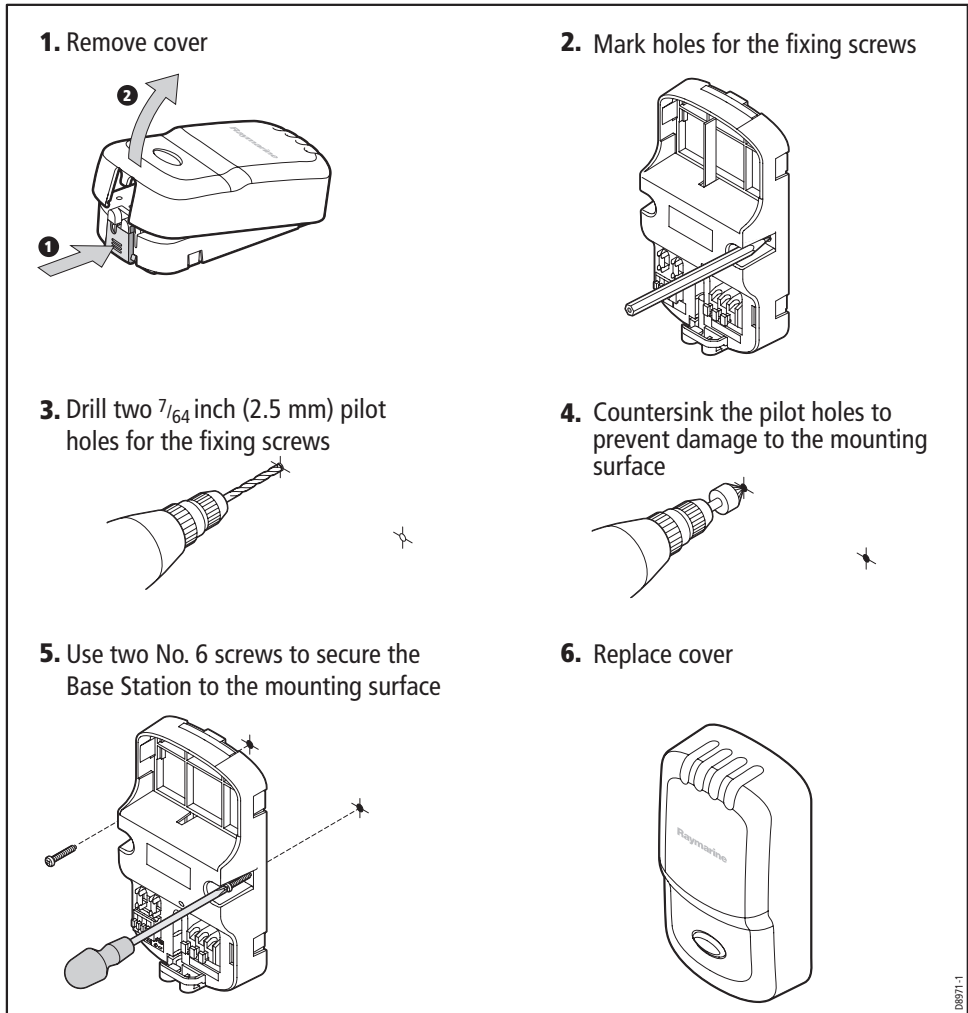
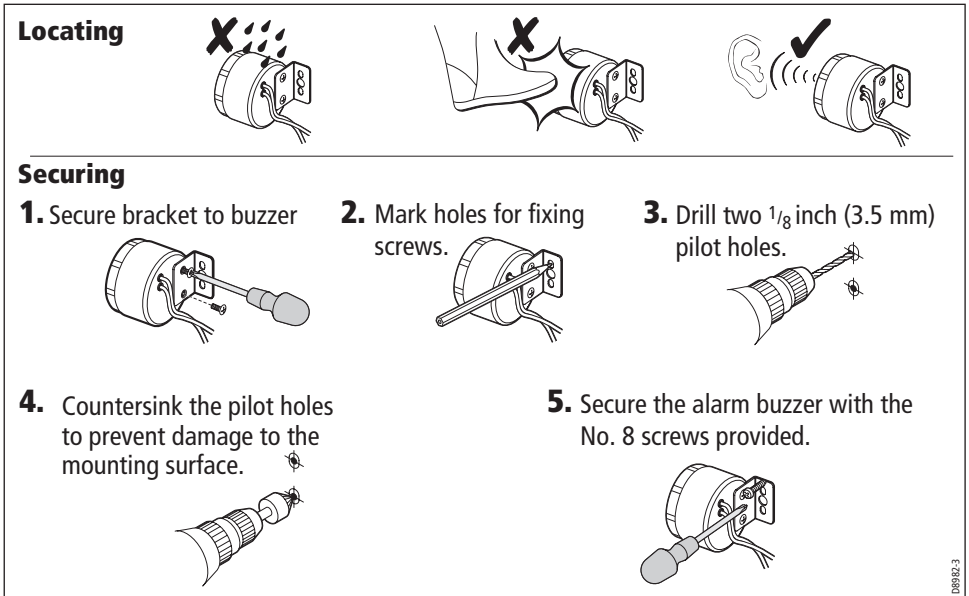
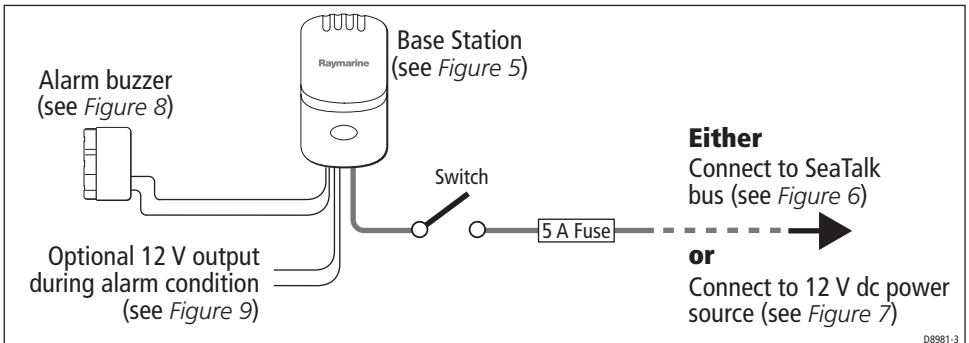

Figure 14 - Fitting Base Station
Figure 15 - Fitting buzzer
Figure 16 - Summary of system connections
- Fit the Base Station and Alarm buzzer, as described in *Figure 14* and *Figure 15* respectively, then connect up your system. A summary of system connections is given in *Figure 16*.